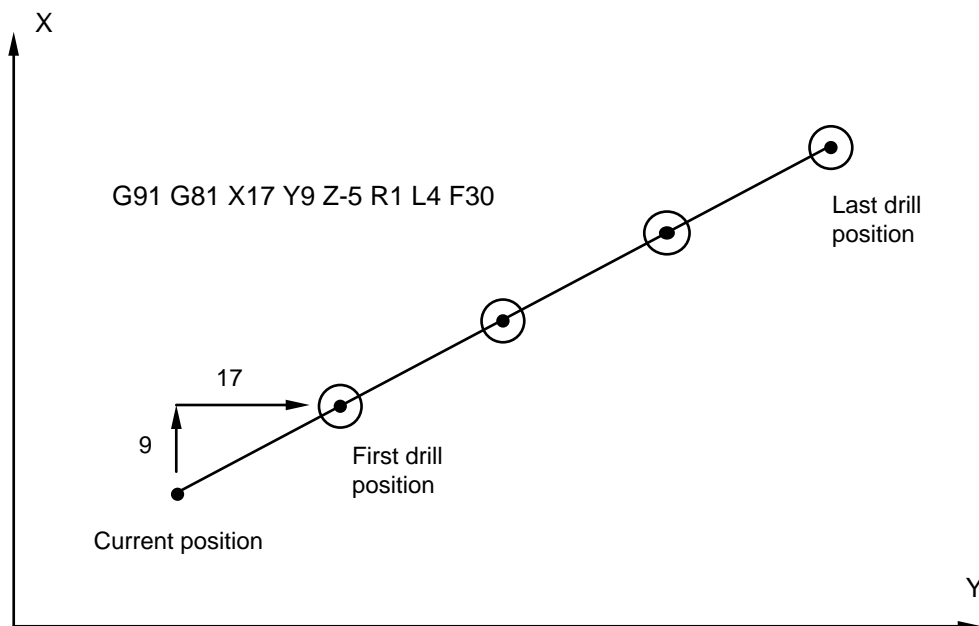

Figure 4-19 Example of Incremental Drilling
The number of repetitions specified with the L address must be given in the command block to be effective. L is assumed one (1), if not present in a canned cycle block. The feed rate specified with the F address is retained even if the canned cycle is canceled. Repetitions can have a very different effect depending on the data format G90 or G91. When in absolute mode, the same hole will be drilled 'L' times and when in incremental mode, the distance specified in the positioning plane will be incremented each 'L' repetition. Figure 4-19 illustrates an example of repeating the relative drilling position when in incremental positioning mode.